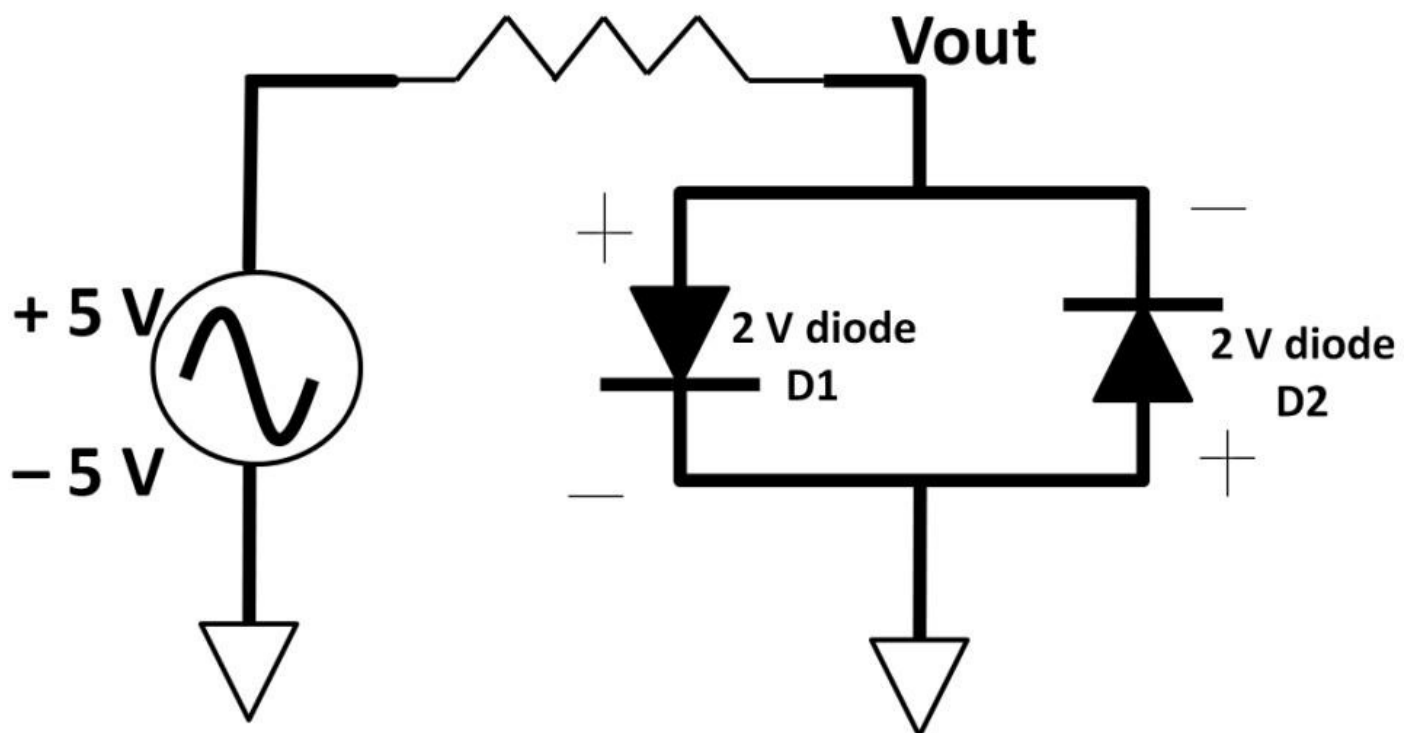
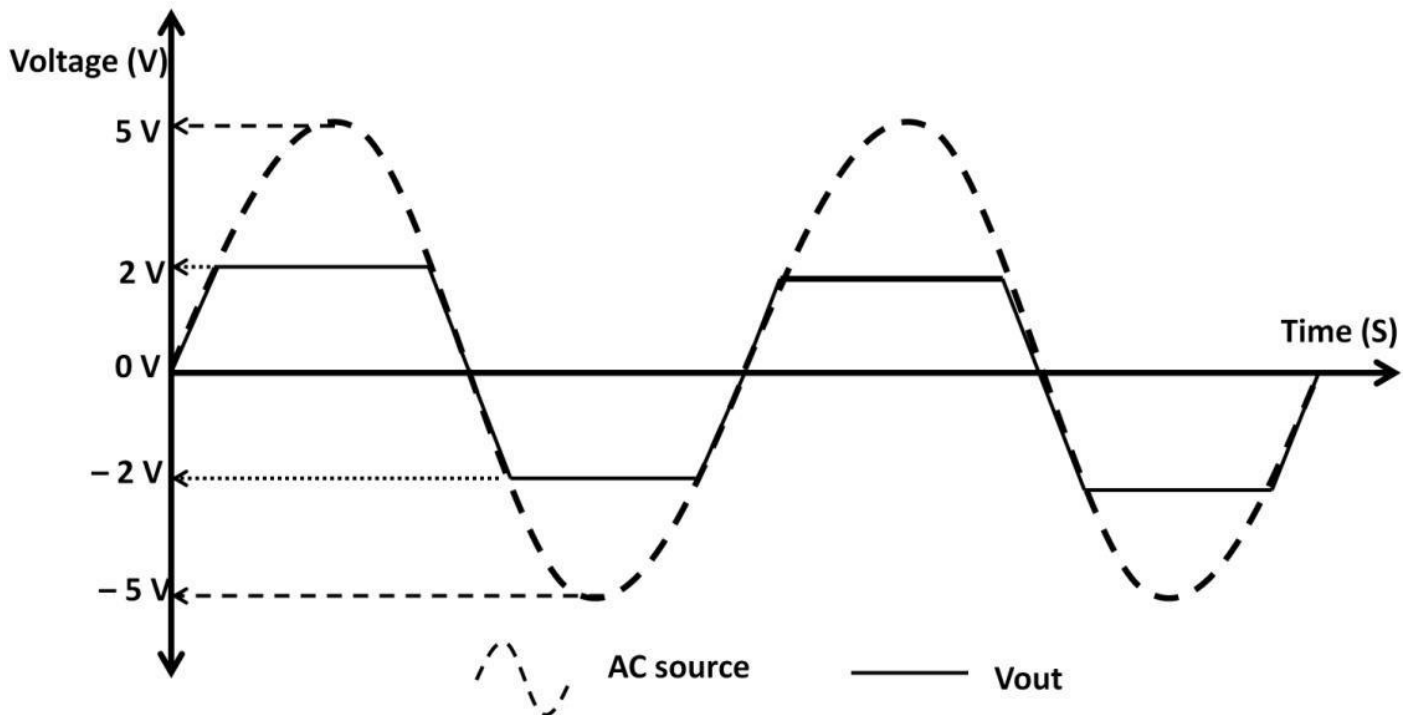

Figure 3.44a: FM noise clipper
Figure 3.44b: FM noise clipper, V_{out} and V_{in} waveforms
Figure 3.44a is a typical circuit used in a Frequency Modulation (FM) radio circuit. It eliminates noise by “clipping” out signal above the upper and below lower diode voltage. More AC circuits will be presented in chapter 4, Analog Electronics. In this circuit, D1 conducts in the positive half AC cycle leading V_{out} at +2 V, during the negative half AC cycle, the D2 forward-bias resulting in -2 V at V_{out} while the D2 anode stands at ground. See V_{in} and V_{out} waveforms in figure 3.44b.